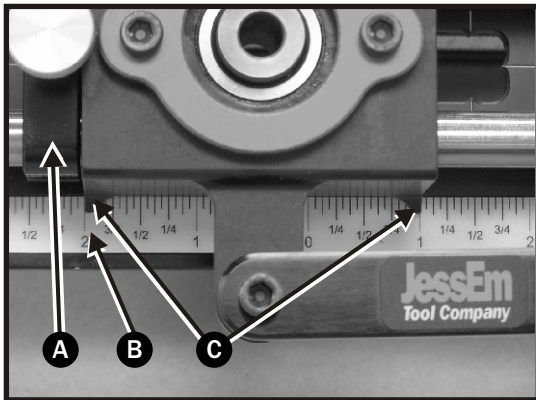

FIG. 10
1. The final step in the set-up is to set the carriage stroke to give the desired length of the mortise. This is done by referring to the carriage stroke scale (letter "B" in Fig. 10) and using the adjustable carriage stop (letter "A" in Fig. 10) to set the carriage stroke. The carriage block also has a pointer on each side (letter "C" in Fig. 10) to help set the carriage position to the carriage stroke scale.